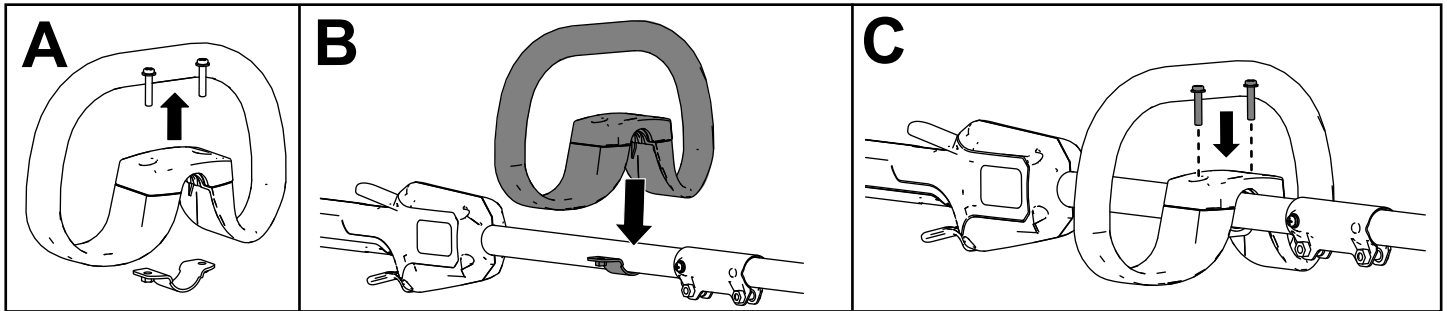

Figure 4
1. Using a Phillips head screwdriver, separate the auxiliary handle from the handle plate by removing the 2 screws (A of Figure 4).
2. Line up the auxiliary handle with auxiliary handle plate on the trimmer handle (B of Figure 4).
3. Secure the auxiliary handle to the handle plate with the 2 previously removed screws (C of Figure 4).
3. Secure the guard onto the base of the trimmer with the 2 screws, 2 washers, and 2 spacers previously removed (C of Figure 4).